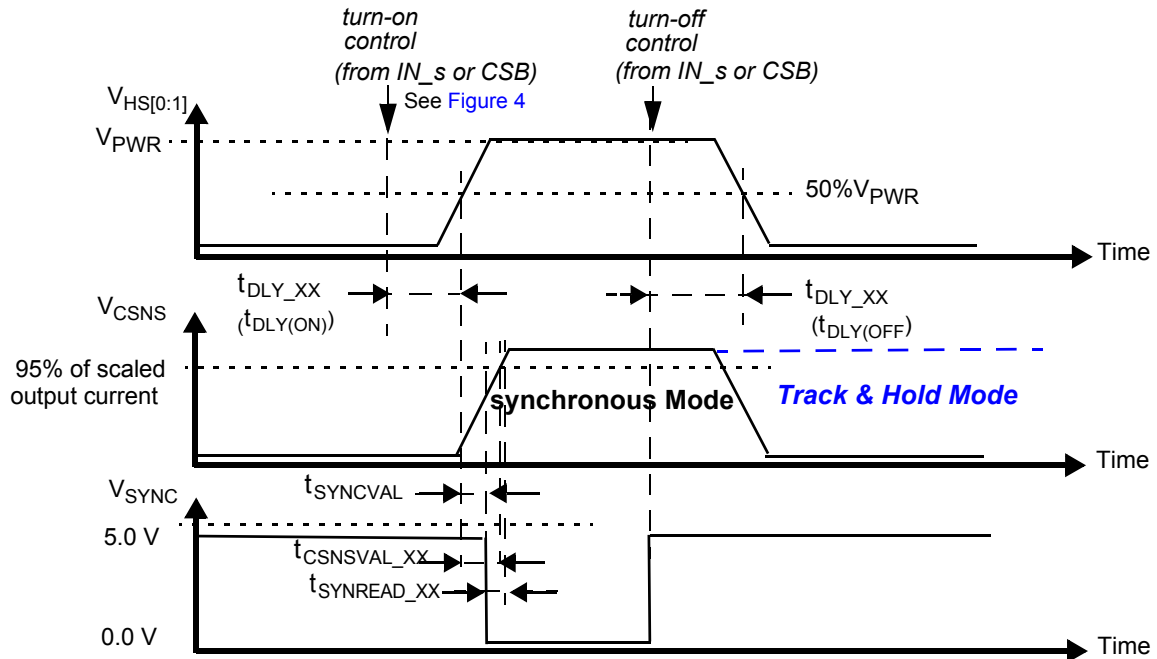

Figure 9. Synchronous and track-and-hold current sensing modes: associated delay & settling times
30. Time required to switch off the channel after detection of overtemperature (OT), overcurrent (OC), SC or UV error (time measured between start of the negative edge on the FSB pin and the falling edge on the output voltage until  $V(\text{HS}[0:1]) = 50\%$  of  $V_{PWR}$ ).
31. Settling time (=  $t_{CSNSVAL\_XX}$ ), SYNC output signal delay (=  $t_{SYNCVAL\_XX}$ ) and Read-out delay (=  $t_{SYNREAD\_XX}$ ) are defined for a stepped load current ( $100\text{ mA} < I(\text{LOAD}) < I_{OCLX\_A}$  FOR  $\text{CSNS\_RATIO\_S} = 1$ , AND  $300\text{ mA} < I(\text{LOAD}) < I_{OCLX\_A\_0}$  FOR  $\text{CSNS\_RATIO\_S} = 0$ ). (see Figure 9 and Output current monitoring \(CSNS\))
The CS pin allows independent current monitoring of channel 0 or channel 1 up to the steady-state overcurrent threshold. It can also be used to sense the device temperature. The different functions are selected by setting bits CSNS1\_en and CSNS0\_en to the appropriate value (Table 23). When the CSNS pin is sensed during switch-off in the (optional) track & hold mode (see Figure 9), it outputs the scaled value of the load current as it was just before turn-Off. When several devices share the same pull-down resistor, the CSNS pins of devices the current of which is not monitored must be tri-stated. This is accomplished by setting CSNS0\_en = 0 and CSNS1\_en = 0 in the GCR register (Table 10). Settling time ( $t_{CSNSVAL\_XX}$ ) is defined as the time between the instant at the middle of the output voltage's rising edge ( $HS[0:1] = 50\%$  of  $V_{PWR}$ ), and the instant at which the voltage on the CSNS-pin has settled to  $\pm 5.0\%$  of its final value. Anytime an overcurrent window is active, the CSNS pin is disabled (see Overcurrent detection on resistive and inductive loads). The current and temperature sensing functions are unavailable in Fail-safe mode and in Normal mode when operating without the  $V_{DD}$  supply voltage. In order to generate a voltage output, a pull-down resistor is required ( $R(CSNS)=1.0$  k $\Omega$  typ. and  $470 < R(CSNS) < 10$  k). When the current sense resistor connected to the CSNS pin is disconnected, the CSNS voltage is clamped to  $V_{CL(CSNS)}$ . The CSNS pin can source currents up to about 5.6 mA.
To synchronize current sensing with an external process, the SYNC signal can be connected to a digital input of an external MCU. SYNC is asserted logic low when the current sense signal is accurate and ready to be read. The current sense signal on the CSNS pin has the specified accuracy  $t_{SYNREAD\_XX}$  seconds after the falling edge on the SYNC pin (Figure 9) and remains valid until a rising edge is generated. The rising edge that is generated by the SYNC pin at the turn-OFF instant (internal or external) may also be used to implement synchronization with the external MCU. Parameter  $t_{SYNVAL\_XX}$  is defined as the time between the instant at the middle of the output-voltage rising edge ( $HS[0:1] = 50\%$  of  $V_{PWR}$ ), and the instant at which the voltage on the SYNC-pin drops below 0.4 V ( $V_{SOL}$ ). The SYNC pins of different devices can be connected together to save  $\mu$ -controller input channels. However, in this configuration, the CSNS function of only one device should be active at a time. Otherwise, the MCU does not determine the origin of the SYNC signal. The SYNC pin is open drain and requires an external pull-up resistor to VDD.